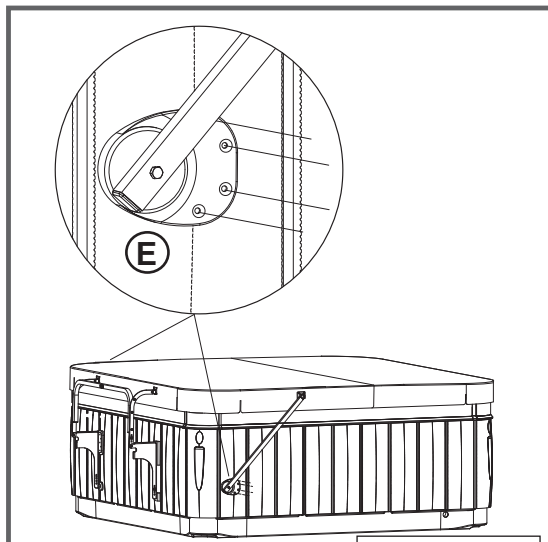

Figure 2.2
Position W or X Side Spacer against Pivot Bracket E, and insert two screws (L) from the back. Then position arm so rib of side spacer fits into appropriate groove. Predrill 7/64" holes into the spa (Figure 2.2) with 1" max. depth. There are (4) holes per Pivot Bracket.
Position the Plastic Bottom (Pivot Bracket) (E) with the holes facing toward the middle of the spa (Figure 2.2).